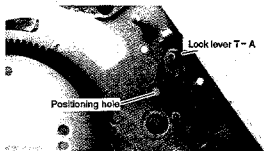

Fig. 3-18-3
- 1 Make sure that registration marks and positioning holes of components shown in Fig. 3-18-3 are aligned with corresponding mark and hole of the main plate. Secure the supply cam S and cam S.
- 4 Secure the cam T with screw ②.